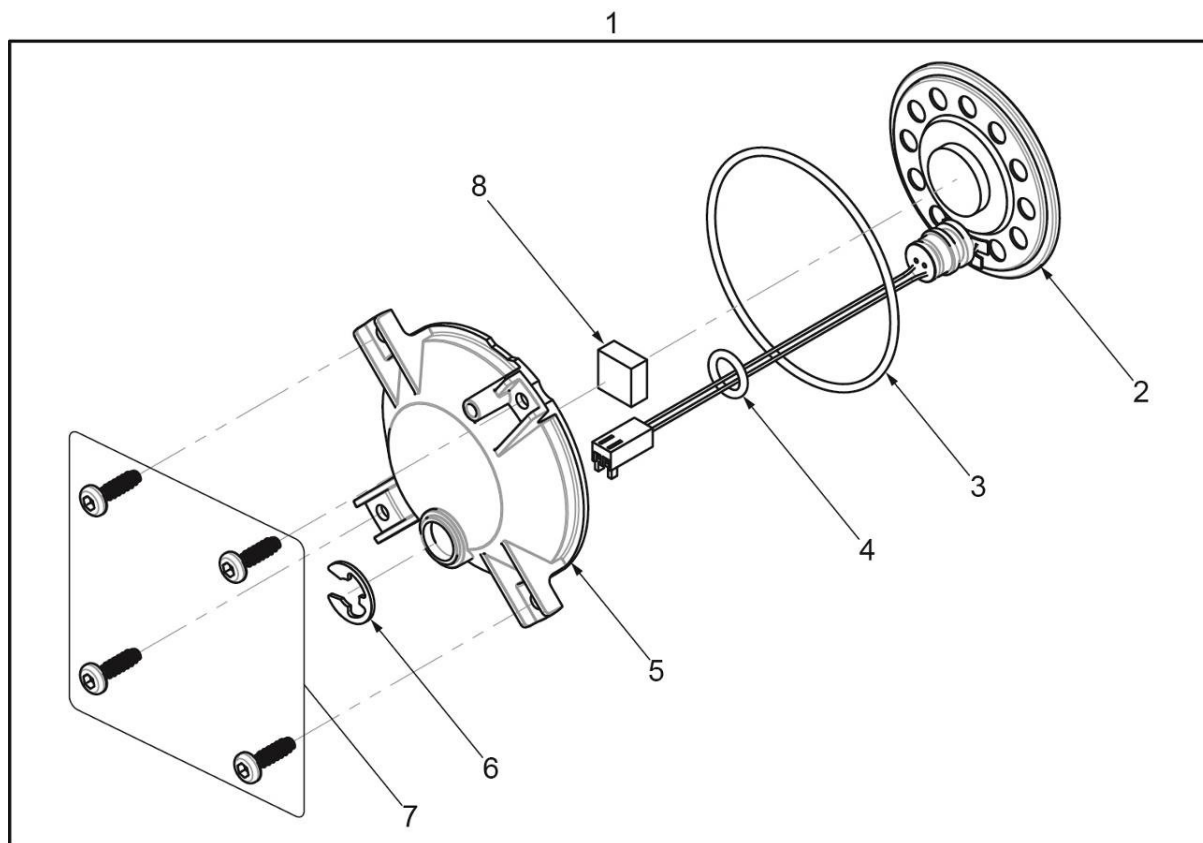

Figure 95: Speaker Kit
a. The speaker is a line replaceable unit and available as a service kit, 3004-0057 Speaker Kit. Figure 95 illustrates the major parts of the speaker.